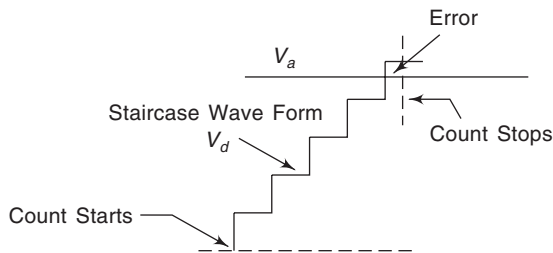

Fig. 17.13 Waveform of the Counter-ramp ADC.
4. Practically, the system *comes to rest only when V_d (digital voltage) > V_a (analog voltage)*. This sets an error in reading as shown in Fig. 17.13.